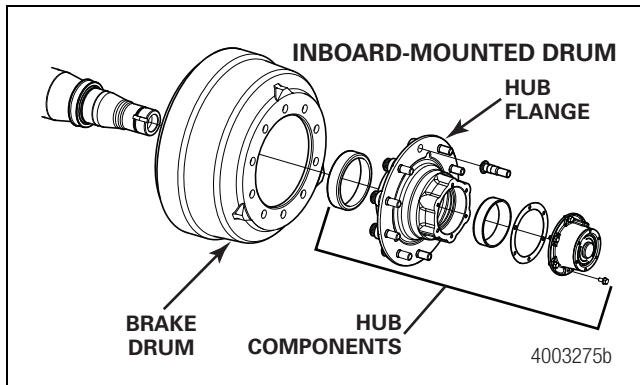

Figure 9.9
- **On inboard-mounted drums:** With this configuration, the brake drum is mounted inboard of the hub flange. Therefore, the hub must be removed prior to removing the brake drum. The main disadvantage of this design is that wheel-end bearings, seals and lubricant must be disturbed during brake maintenance. Figure 9.9.